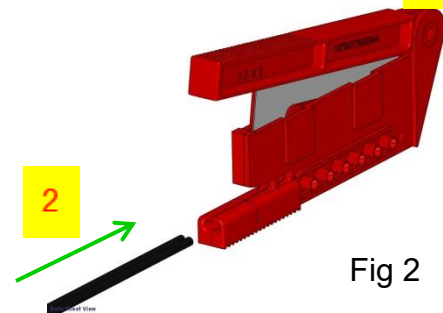

Fig 2
- 2.Split the cable jacket as shown in Figure 2 Insert cable into slot and push down lever, (Figure 2 & 3) remove and separate the zipcord approximately 2"